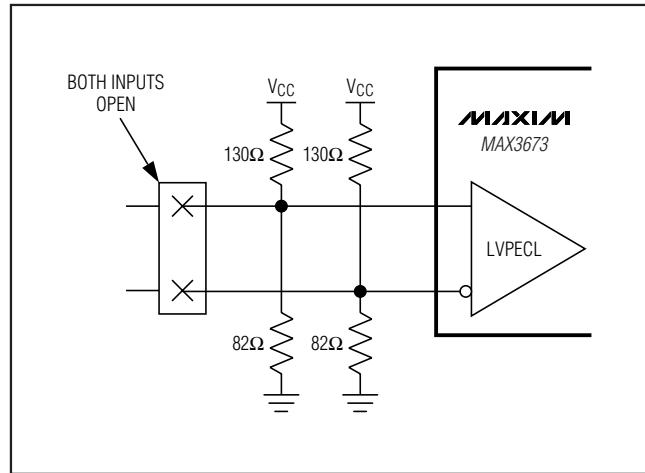

Figure 3. Positions for Open-Circuit Detection
- Both inputs (**REFCLKx**, **REFCLKx**) are disconnected from the source and have 130Ω to **V_{CC}** and 82Ω to **GND** at each input. See Figure 3.